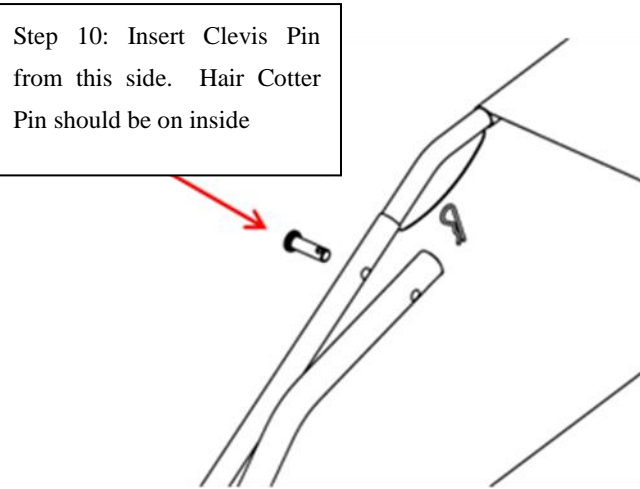

Figure 10
**IMPORTANT** – Note direction of tubes. The bend/angle points down. Connect Bag Mount Tubes to Upper Hopper Tubes using a Clevis Pin R (Par #17) and a Hair Cotter Pin (Part #3). Insert the Clevis Pin from outside of bag. The Hair Cotter Pin should be on the inside of bag. See Figure 10